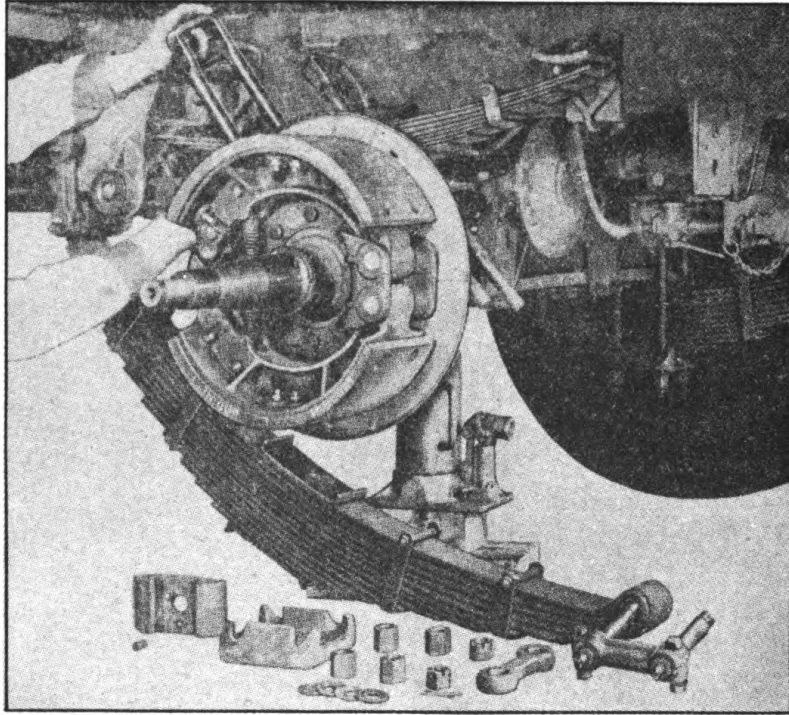

FIGURE 10. AXLE REPLACEMENT.
5. AXLE REPLACEMENT (Figure 10).—*a.* Hoist up the trailer at the front of the gear frame and remove wheel and hub assemblies.